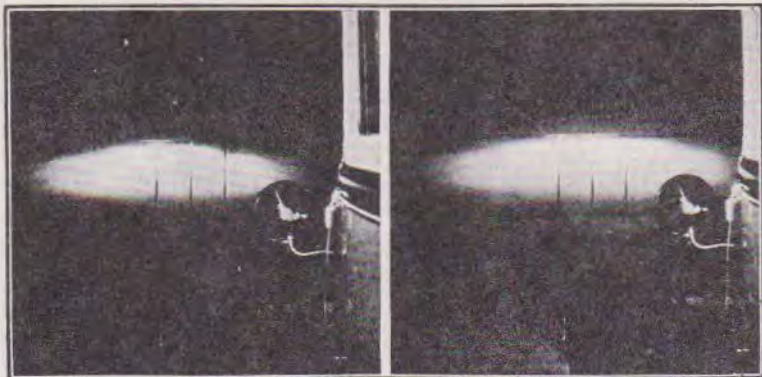
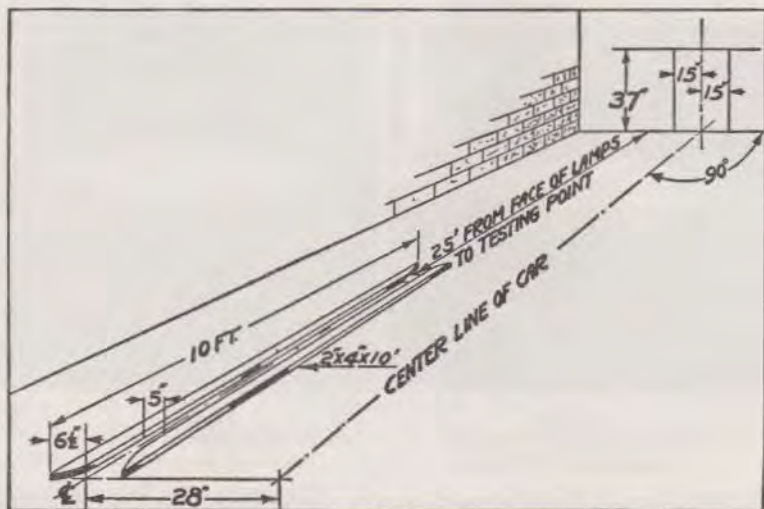

Figure 18
Figure 20
Align and focus headlamps with empty car standing on a level surface in front of a white wall or screen 25 feet from front of headlamps. This wall must be in semi-darkness or sufficiently shielded from direct light so that the light spots from the headlamps can be clearly seen. The wall must be marked off with black lines as shown in Figs. 18 and 19. Details for making the layout are shown in Fig. 20.
3. Focus by means of screw at back of lamps, first one lamp and then the other, adjusting the bulb filament at the focal center of the reflector to obtain an elongated elliptical spot of light on the wall, with its long axis horizontal (see Fig. 18). In focusing, adjust the bulb to obtain as good contrast and as well-defined cut-off across the top of the spot of light as possible.
2. The tops of the bright spots on the 25-foot wall are to be set at a line 37 inches above level of surface on which car stands. (See Fig. 20.) With tops of bright spots thus set for empty car, the headlamps comply, under all conditions of loading, with the requirements of the various states.